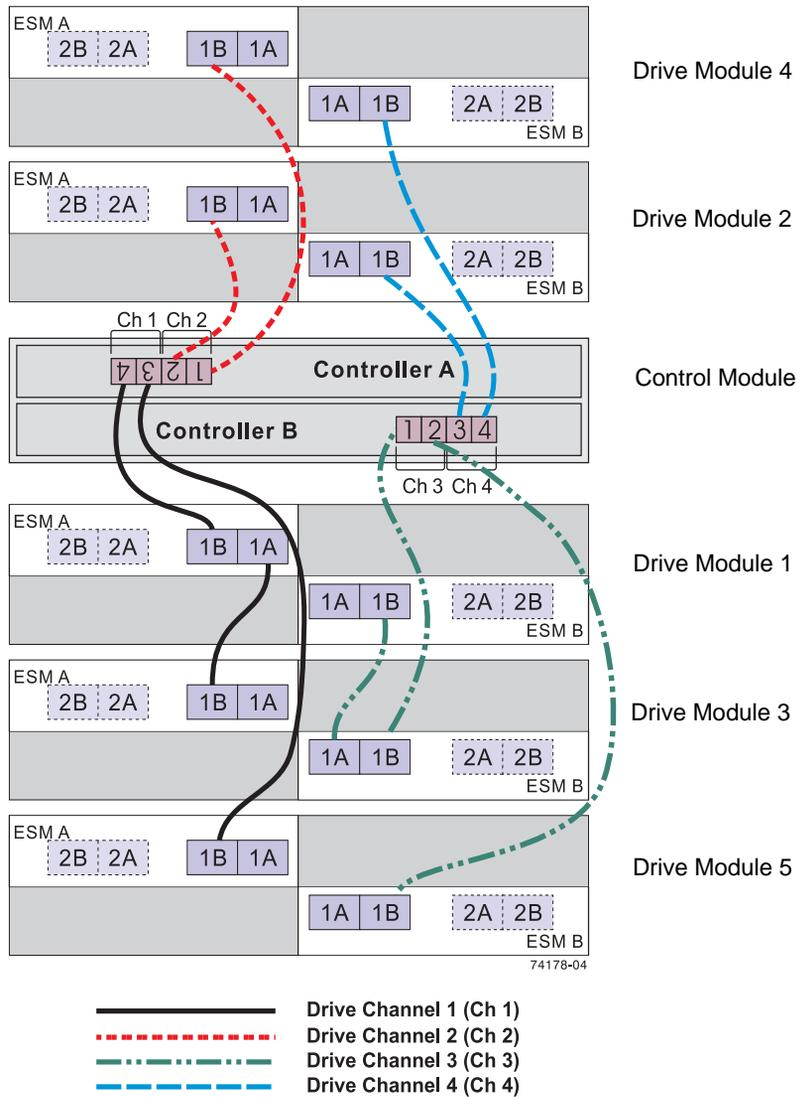

Figure 21 Control Module and Five Drive Modules
Control Module and Five Drive Modules	<a href="#">Figure 21 on page 38</a>
**NOTE** If you have more than four drive modules connected to the control module, you will need to start connecting cables from one drive module to the next (daisy-chaining) starting with the fifth drive module. Refer to Figures 21 through 28 on pages 38 through 45.